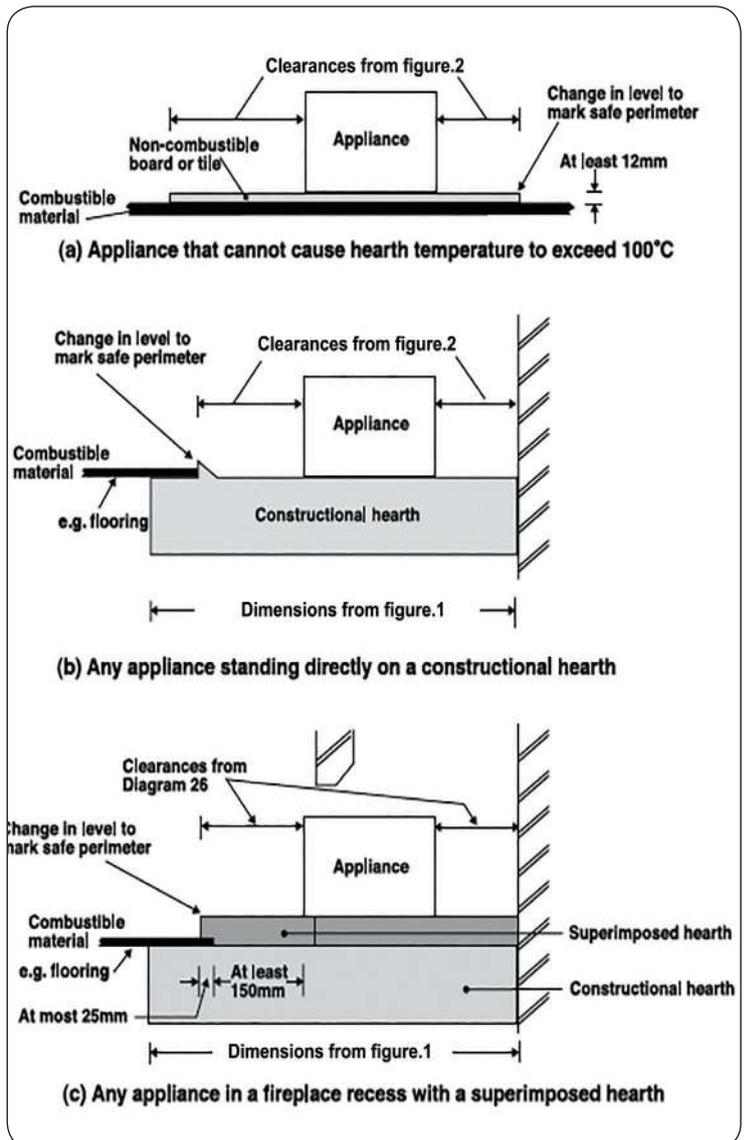

fig.3. Ways of Providing Hearths
A: Hearths made of non-combustible board / sheet material or tiles at least 12mm thick (fig.3), if the appliance is not to stand in an appliance recess and has been tested to an applicable appliance standard to verify that it cannot cause the temperature of the upper surface of the hearth to exceed 100°C; or
3. Remove the flue blanking plate by loosening the two nuts and bolts- See Fig.3